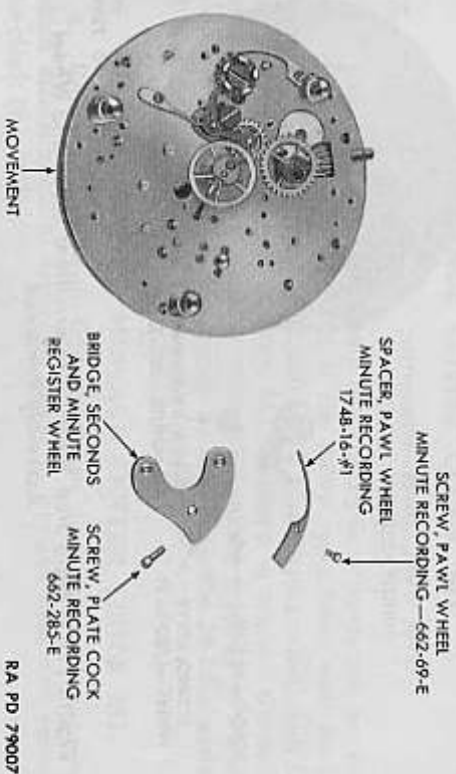

Figure 196 — Elgin Stop Watch — Seconds and Minute Wheel Bridge Assembly Removed
- h. Remove Minute Register Wheel and Seconds Wheel Bridge (fig. 196). Remove minute register wheel pawl and spacer screw.
f. **Replace Seconds and Minute Register Wheel Bridge.** Replace bridge, aligning pivots of wheels in their respective bearings. Replace bridge screw and secure. Replace friction spring and secure with screw. Replace minute register wheel pawl and spacer, and secure in proper position with screw (fig. 196).